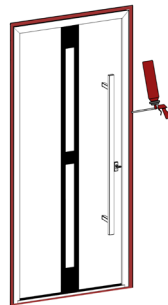

Fig. 25.
3.19. Blow the drilling areas off dust and brick chips. Moisten the wall surface with a spray gun and fill the installation gap with assembly foam (Fig. 25).